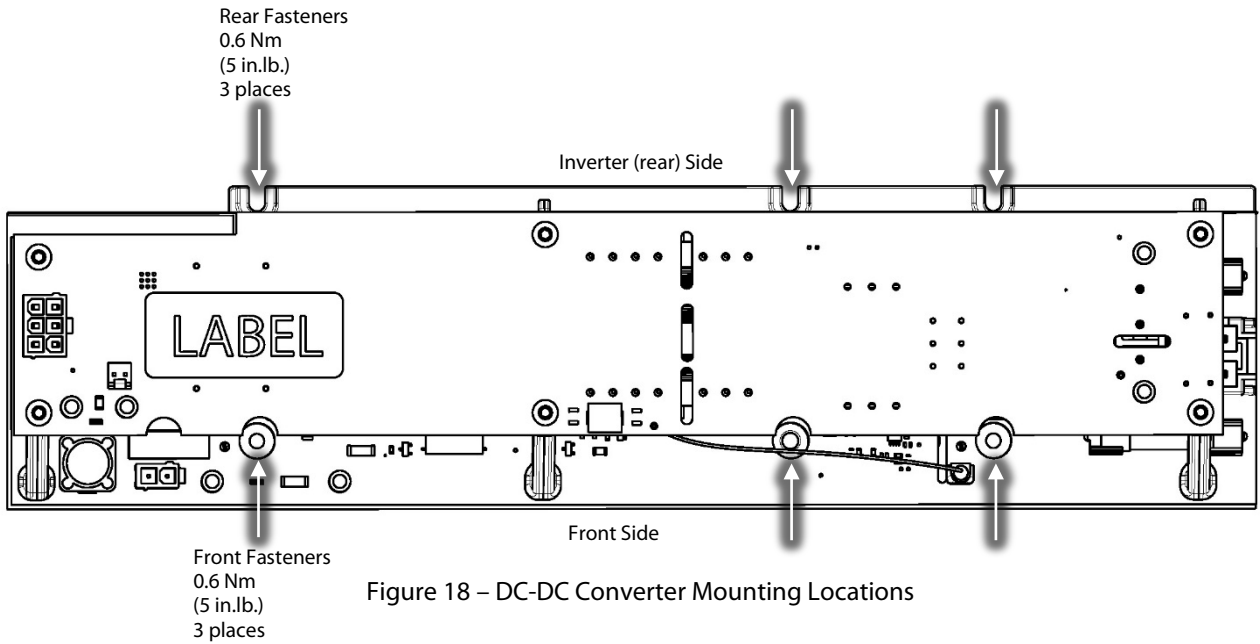

Figure 18 – DC-DC Converter Mounting Locations
3. Install the new front fasteners that secure the DC-DC Converter to the Inverter Heat Sink Plate. Torque all fasteners to 0.5 Nm (4 in.lb.). Refer to Figure 18 (DC-DC Converter Mounting Locations).